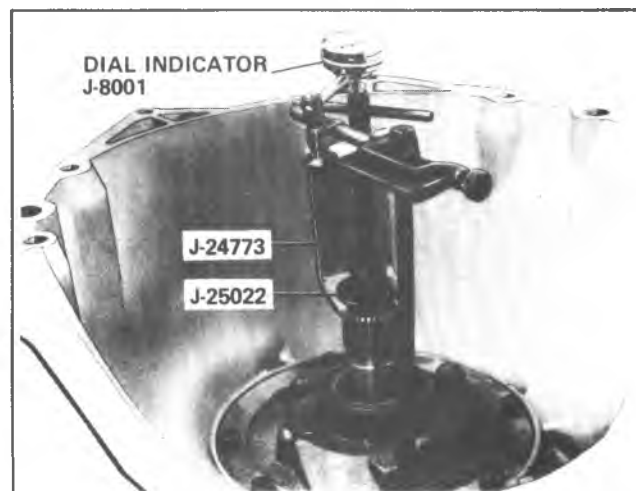

Fig. 7A-139A-Checking Front Unit End Play
3. Install J-25022 on J-24773 tool and locate on end of turbine shaft (Fig. 7A-139A).
The selective washer controlling this end play is located between the output shaft and turbine shaft. If more or less washer thickness is required to bring end play within specifications, select proper washer from Fig. 7A-140A.
9. Remove J-25013-5 and J-25013-1 from rear end of transmission (Fig. 7A-141A).